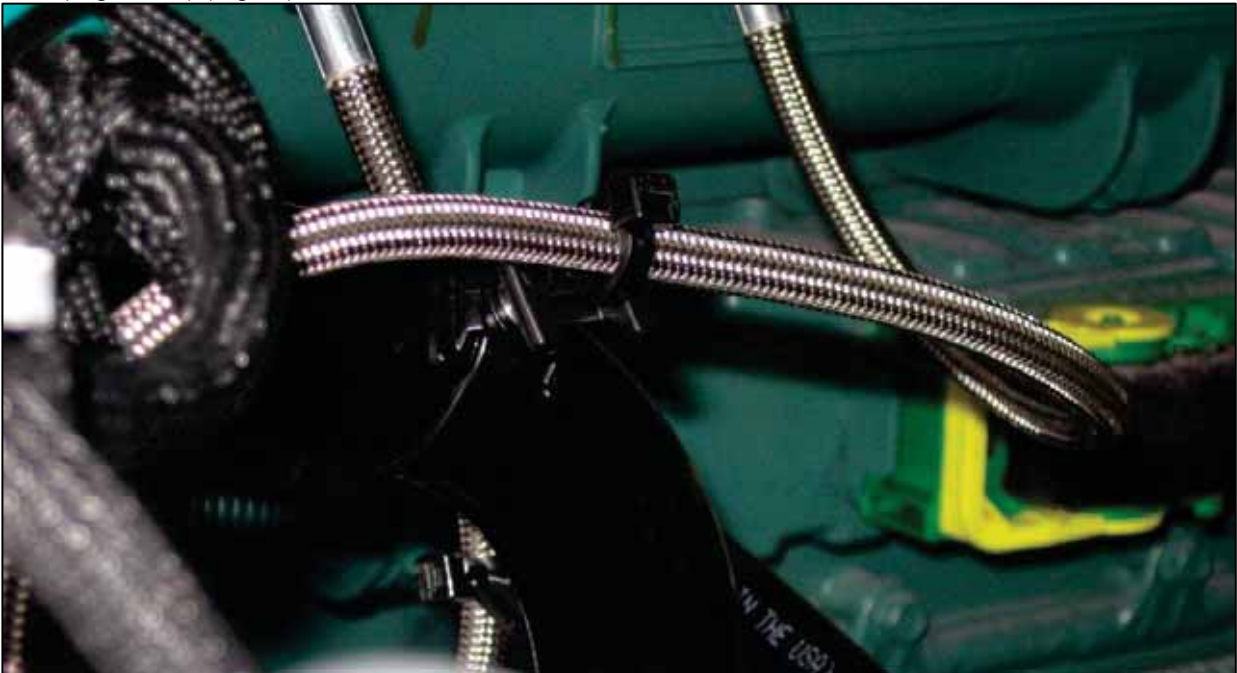

Figure 23
- On metal section of oil fill tube, just above the down bend; head up and slightly towards curb side. (Right side) (Fig 23)